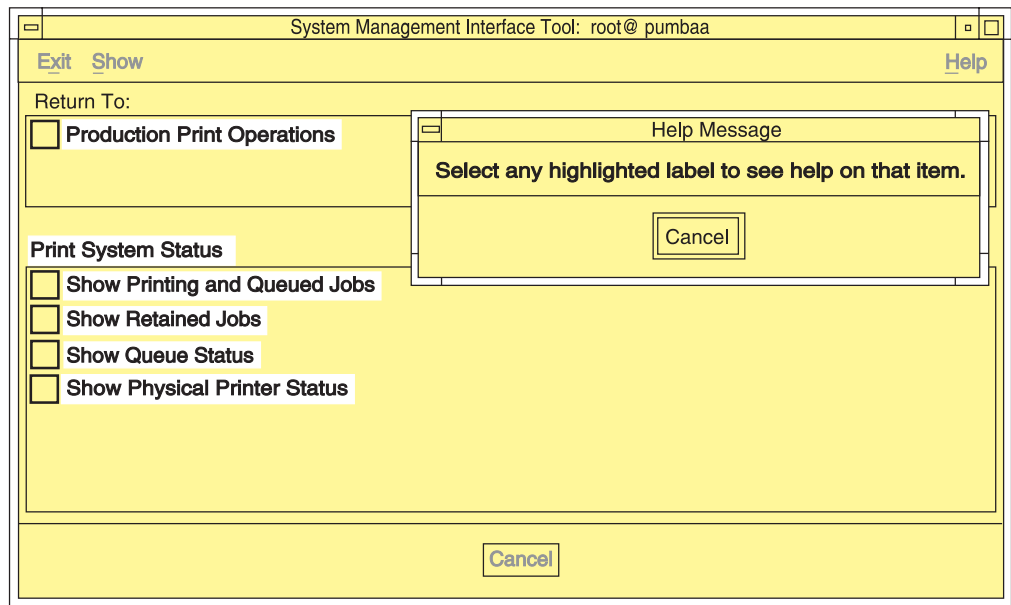

Figure 57. Help for SMIT Panel Menu Selections
1. Press **Ctrl + F1**. All the menu selections on the panel are highlighted. The mouse pointer changes to a question mark. A **Help Message** window opens with instructions on how to access help. Figure 57 on page 251 shows an example of the results of pressing **Ctrl + F1** for a SMIT panel.